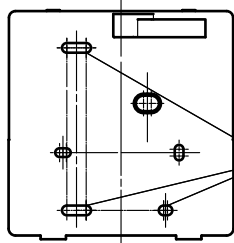

Fig.6
2. Use three GB950-86 M4X20 screws to directly install the back cover on the wall. (Fig.6)